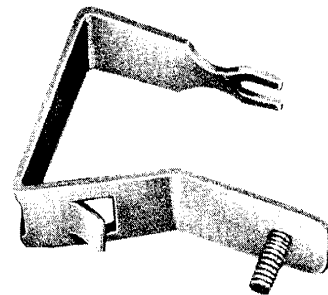

Fig. 8—72A Bracket
3.01 The 72A Bracket is a formed metal bracket (Fig. 8).